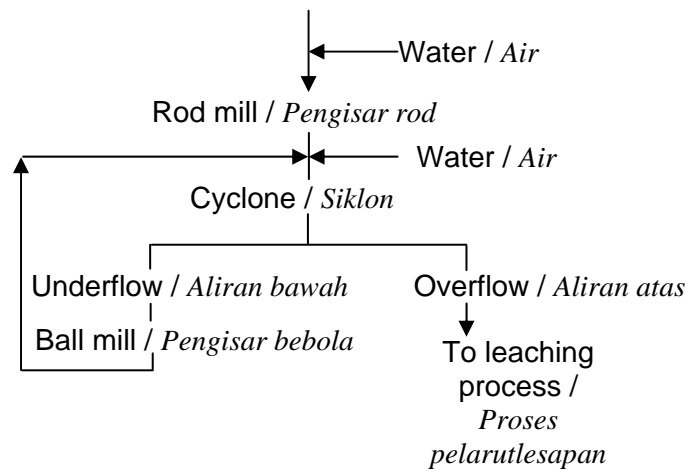

Figure Q2 / Rajah S2
2. [a] As a mineral processing engineer you are required to operate the grinding circuit as shown in Figure Q2.
For optimum performance, the amount of water which produces optimum slurry composition in all parts of the circuit is required. Calculate the circulating load in the grinding circuit shown in Figure Q2 and then determine the amount of water that need to be added to the rod mill and cyclone feed.